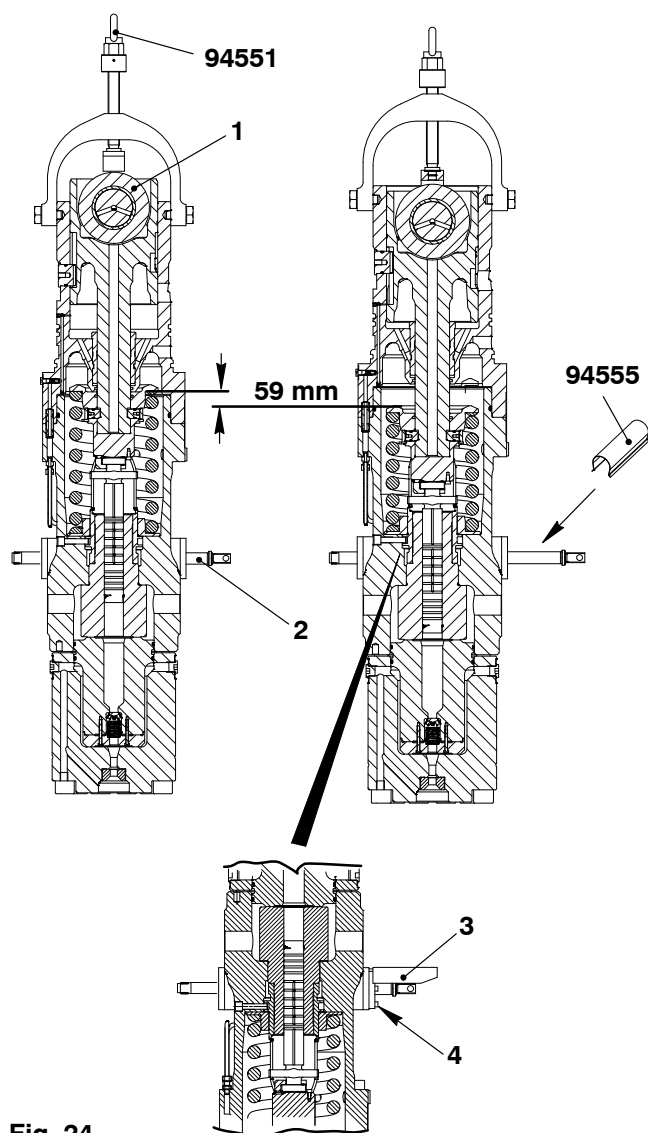

Fig. 24
- 1) Turn the eye bolt on the spindle press (94551, Fig. 24) to move the roller (1) down 59 mm.
- 3) Attach a spring balance to the toothed rack (2).
- 4) Use the spring balance to pull the toothed rack (2) fully out. Make sure that the toothed rack (2) moves freely.
- 7) Attach the cover (3) to the fuel pump with the six screws (4).